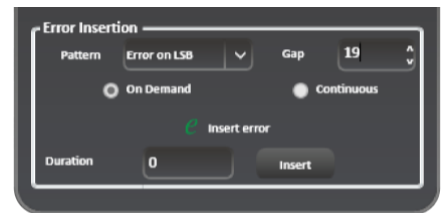

Figure 20: Error injection tab
- **Select the pattern.** Patterns depend on the modulation type (Figures 20 and 21).